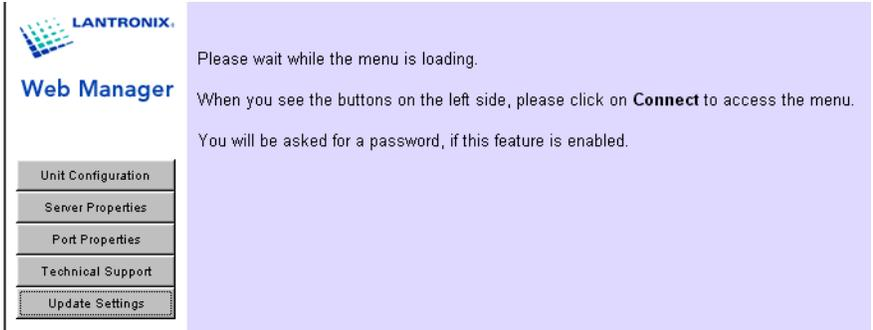

Figure 32: Web Browser Main Menu Screen
- Click on the  button. When communication has been completely established the configuration option buttons become active (see Figure 32).